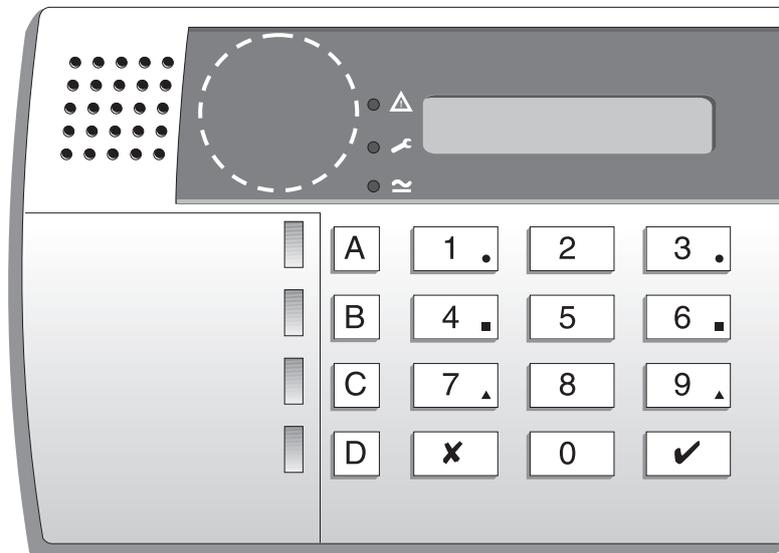

Figure 1. Sensitive Area on 9930 Keypad for Tag
When presenting a proximity tag to a 9930 keypad, whether for programming or for normal use, make sure that the tag is touching the front of the keypad to the left of the display as shown in Figure 1. The 9940 keypad has a proximity coil that makes the whole case sensitive to tags.
5. Present the proximity tag to the front of the keypad (see Figure 1).